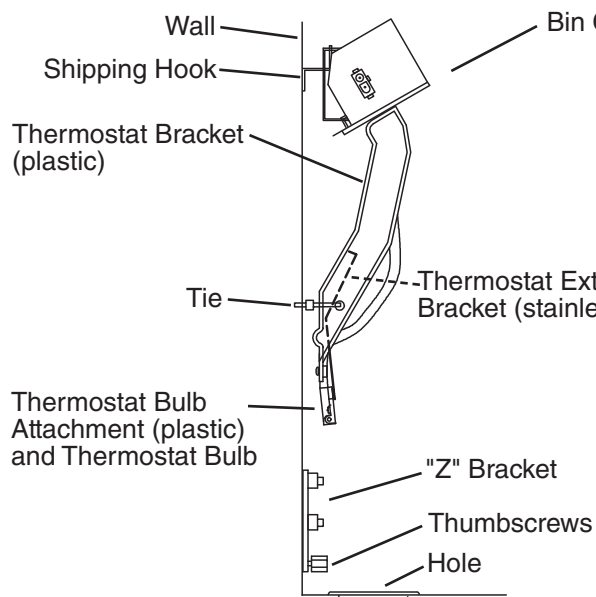

Fig. 6
- c. Remove the bin control thermostat assembly from the shipping hook by lifting it up and shifting it to the right. Lower the thermostat extension bracket (stainless) with the thermostat bulb attachment and thermostat bulb through the hole located at the bottom of the icemaker. Next, lower the thermostat bracket (plastic) through the hole. See Fig. 6.